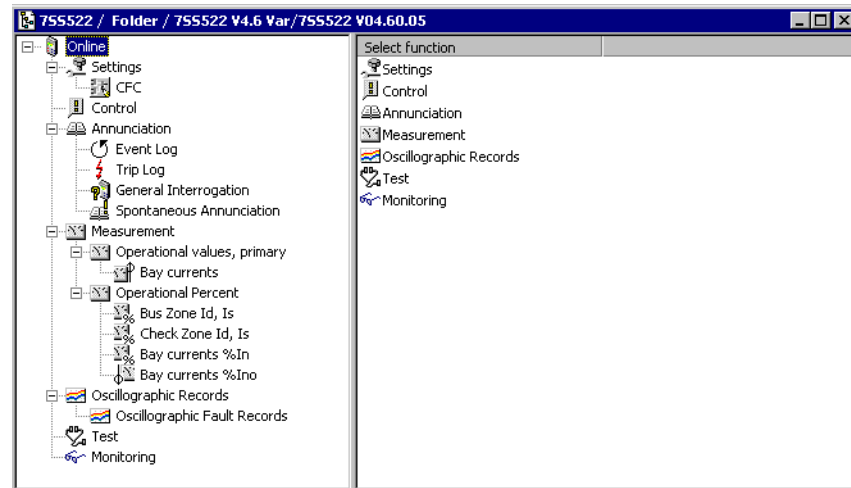

Figure 6-1 Annunciation groups in the DIGSI Device Configuration
- ❑ Click the folder **Online** in the navigation window of the DIGSI Device Configuration. This will open the directory containing the operating functions of the device (see Figure 6-1, page 213).